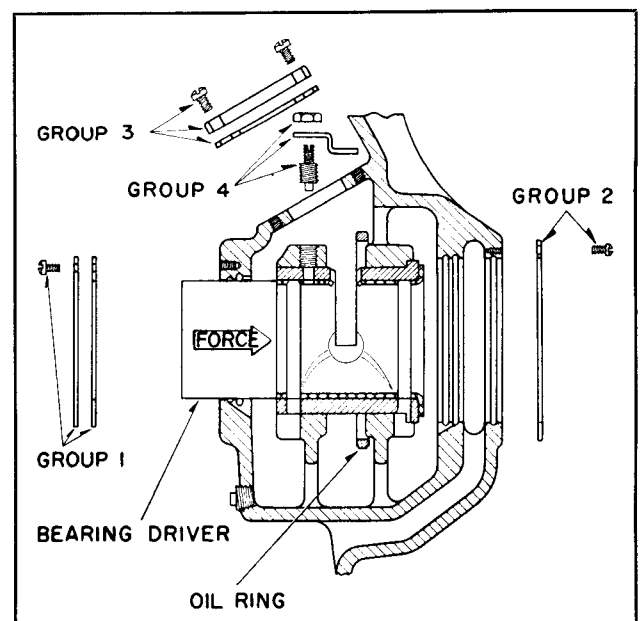

FIG. 7. Detail of Solid Sleeve Bearing
2. Remove oil ring inspection cover. (Group 3 of Fig. 7).
5. Remove outer and inner bearing caps. (Group 1 and 2 of Fig. 7).
7. Tap the bearing out toward the inside by placing a bearing driver or rod against bearing shoulder. (See Fig. 7).